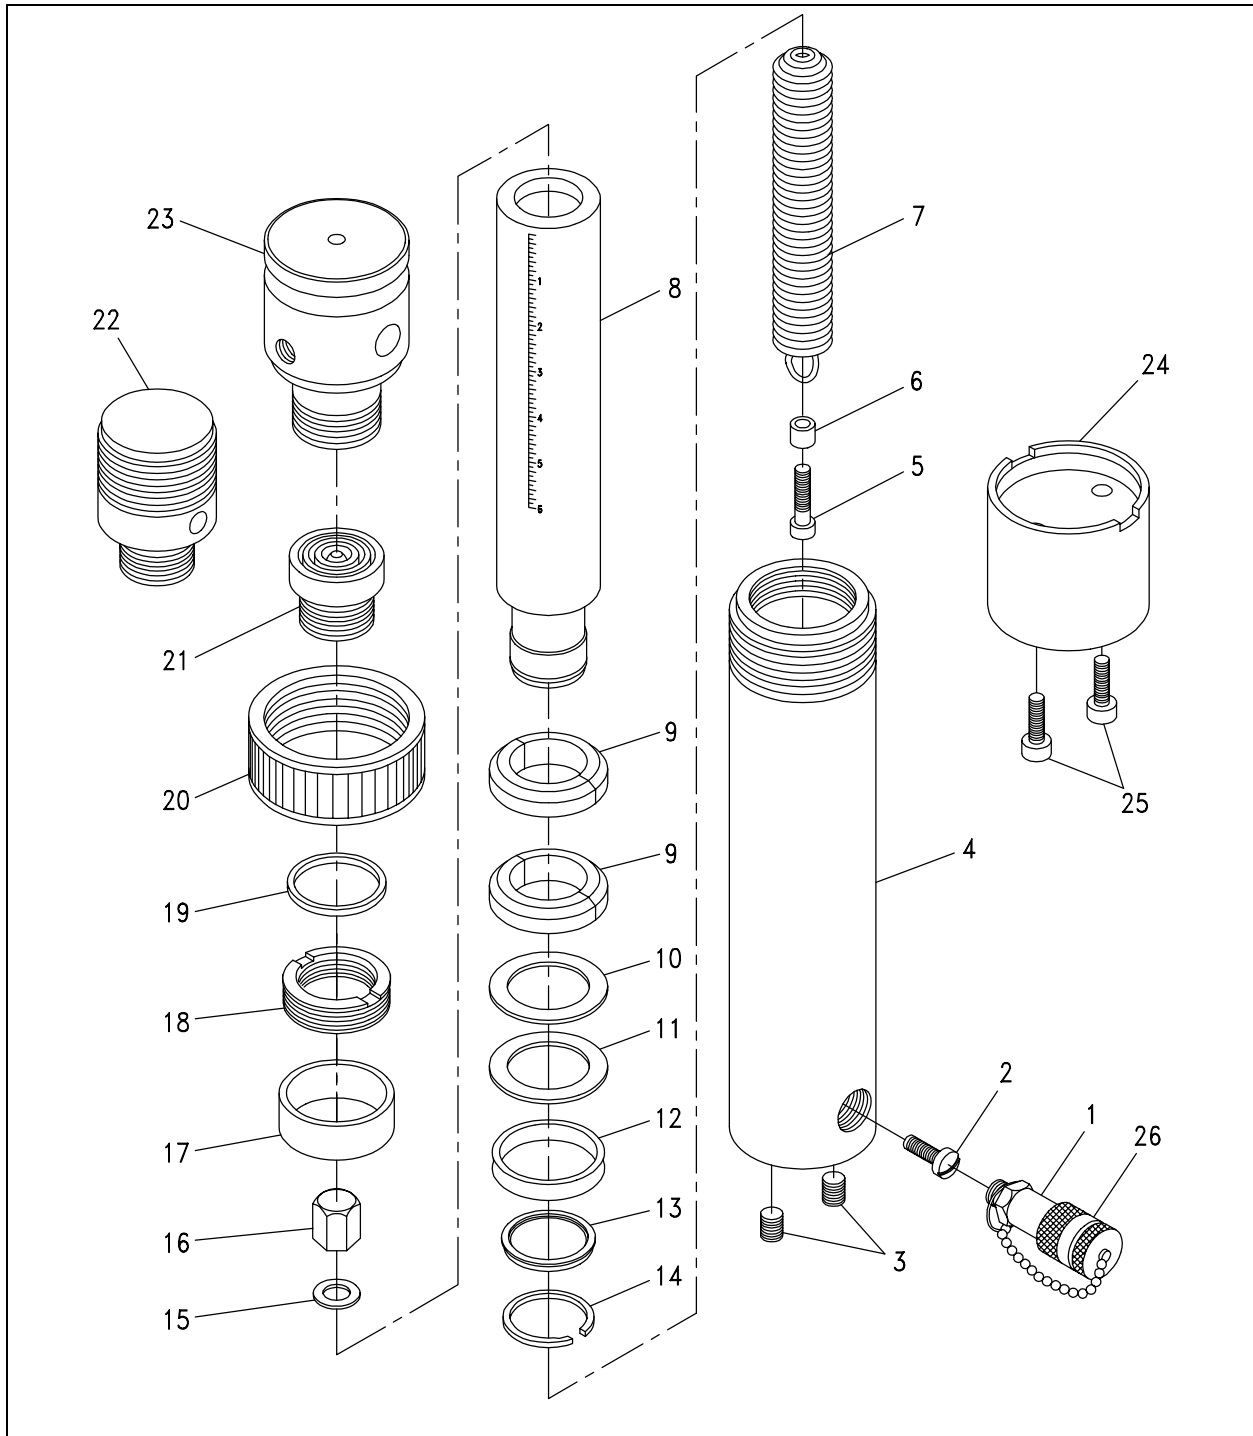

Figure C-4. Jack Ram Components (Sheet 1).
Corrective maintenance is limited to replacement of parts. Figure C-4 illustrates parts breakdown for the rams.
- a. Figure C-4 illustrates the parts breakdown for the Jack Ram.